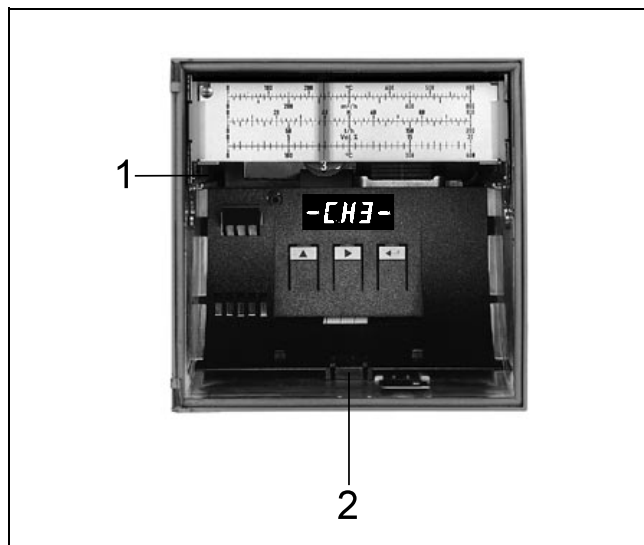

Fig. 22 1 Retaining screw
1. Unloosen retaining screw 1 (see Fig. 22) and pull the measuring element carrier approx. 2 cm forward.
2. Lift the unlocking level 2 (see Fig. 22) and pull the module forward simultaneously.